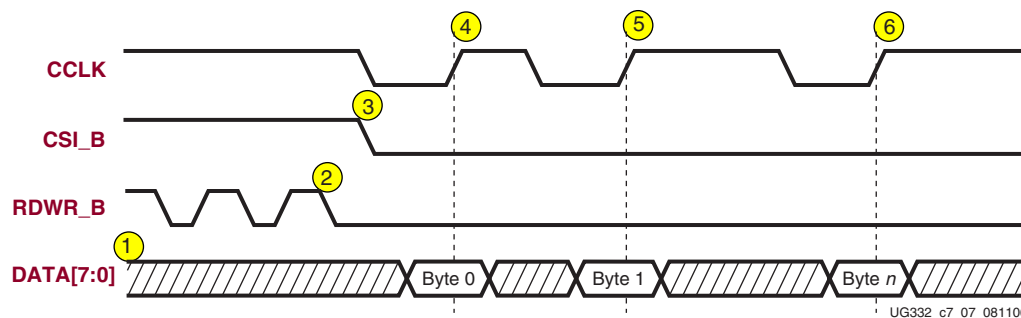

Figure 7-7: Non-Continuous SelectMAP Data Loading with Controlled CCLK
2. Pause `CCLK`, shown in Figure 7-7 and described in “Pausing `CCLK`,” page 174.
The following numbered items correspond to the markers provided in Figure 7-7.